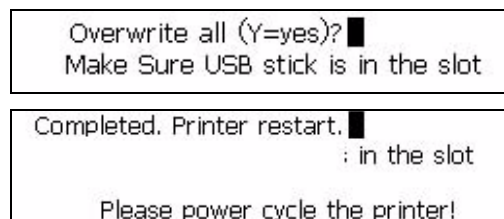

Figure 5-4: System Message
- 4 Press Y (Figure 5-4), and system restore is completed.